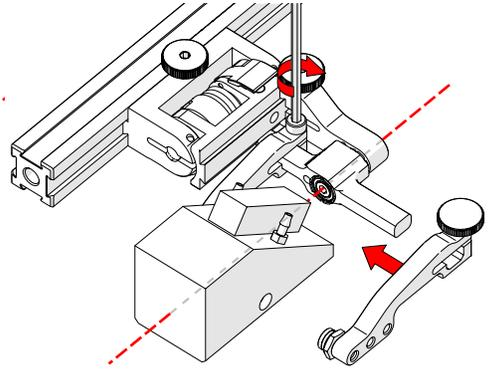

Fig. 104 - Place wedge
7. Position the wedge on the inner probe holder arm (Fig. 104).